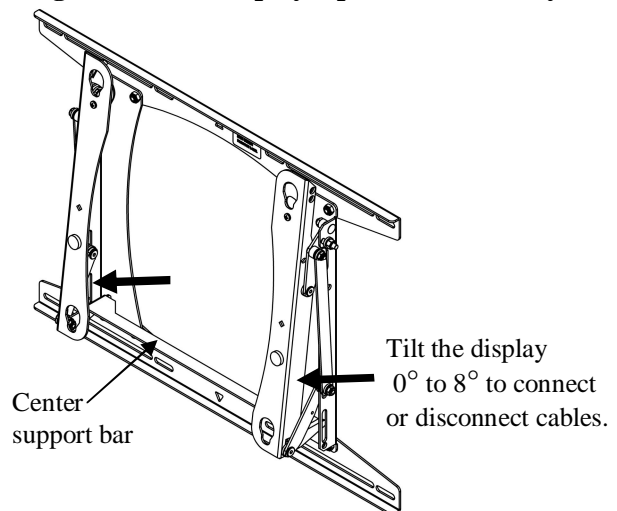

Figure 12. Cable Connection
2. Lower center support bar to keep the display tilted up (see Figure 12).